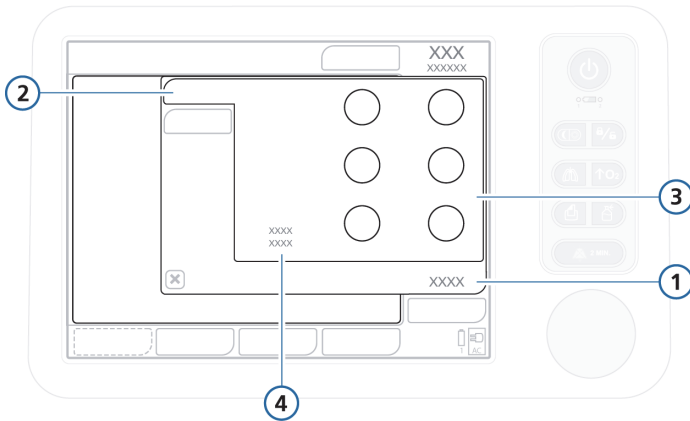

Figure B-4. (S)CMV+ Basic controls
The control settings active in the (S)CMV+ mode are shown in Figures B-4 and B-5.